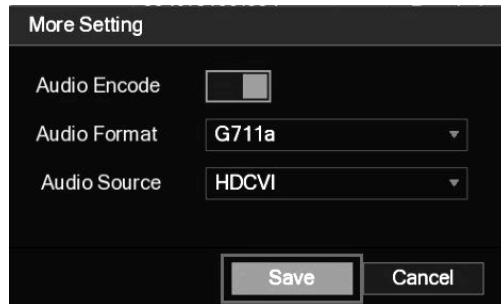

Figure 4-4
Step 3 In the Main Stream column, click **More Setting**. The More Setting interface is displayed. See Figure 4-4.